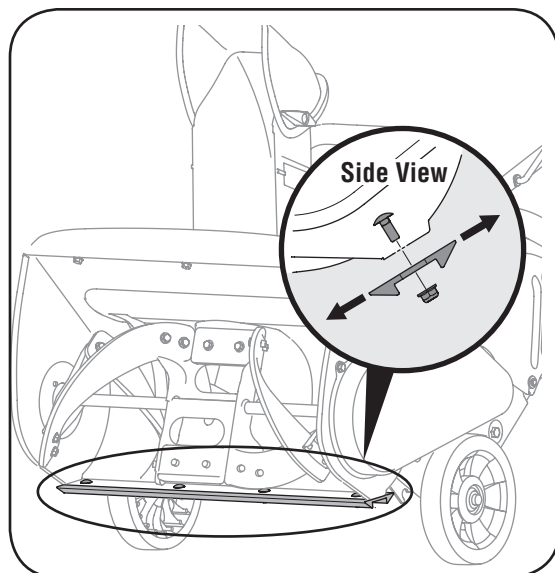

Figure 7
2. To adjust, tip the snow thrower back so that it rests on the handle. Loosen the four lock nuts and bolts which secure the shave plate to the housing. See Figure 7. Move the shave plate to desired position and retighten the nuts and bolts securely.
The shave plate is attached to the bottom of the auger housing and is subject to wear. It should be checked periodically. There are two wearing edges and the shave plate can be reversed. Refer to Figure 7.